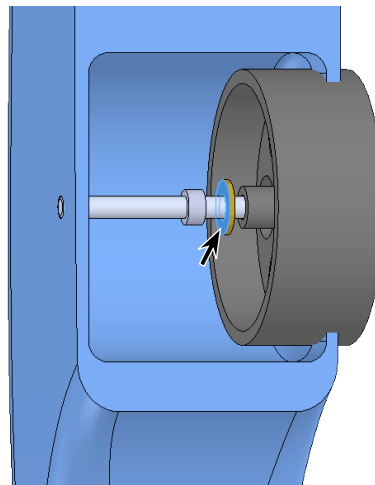

Fig. 14
Step 1. Scroll down to rear shell. To scroll hold down **Ctrl** and **press up arrow key** on keyboard, **Fig. 14**.
Step 2. Use **Right arrow key** on keyboard one time to rotate assembly to view side face of Washer, **Fig. 14**.
Step 3. Click **side face of Washer**, **Fig. 14**.